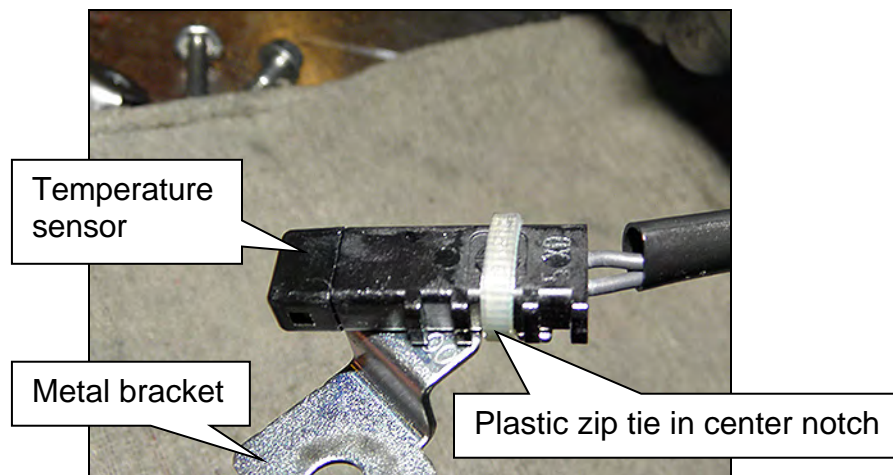

Figure 24
- a. Cut the plastic zip tie with an appropriate tool to remove the temperature sensor bracket from the terminal harness assembly. (Figure 24).